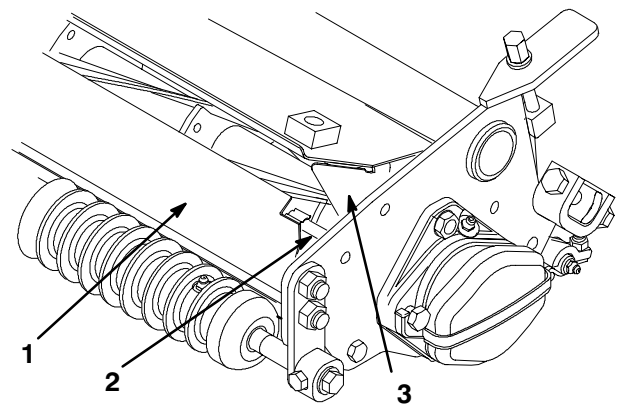

Figure 11
A. Remove and discard the front shield assembly (Fig. 11). Also, remove and discard the shield mounting studs and fasteners secured to each cutting unit side plate.
C. Bend the grass shield side deflectors outward until they are flush with the cutting unit side plates (Fig. 11).